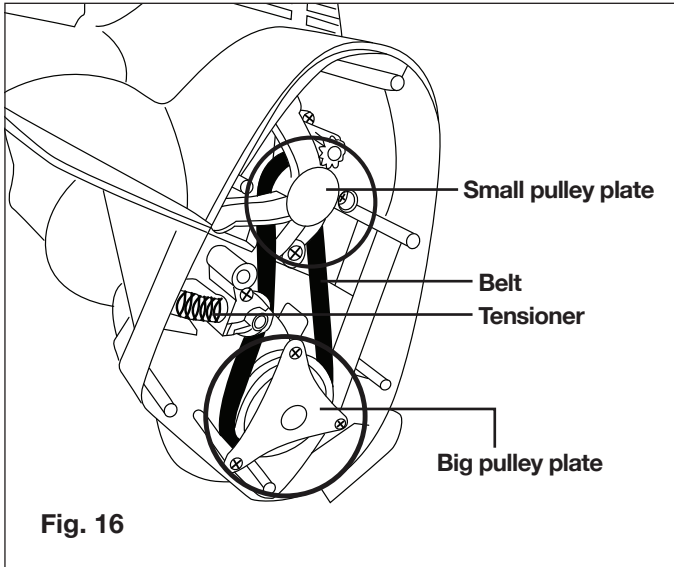

Fig. 16
2. Remove the tensioner (Fig. 16).
3. Unscrew the three (3) screws from the big pulley plate and the four (4) screws from the small pulley plate (Fig.16).
6. Place the left side cover back into position and refasten the seven (7) screws.